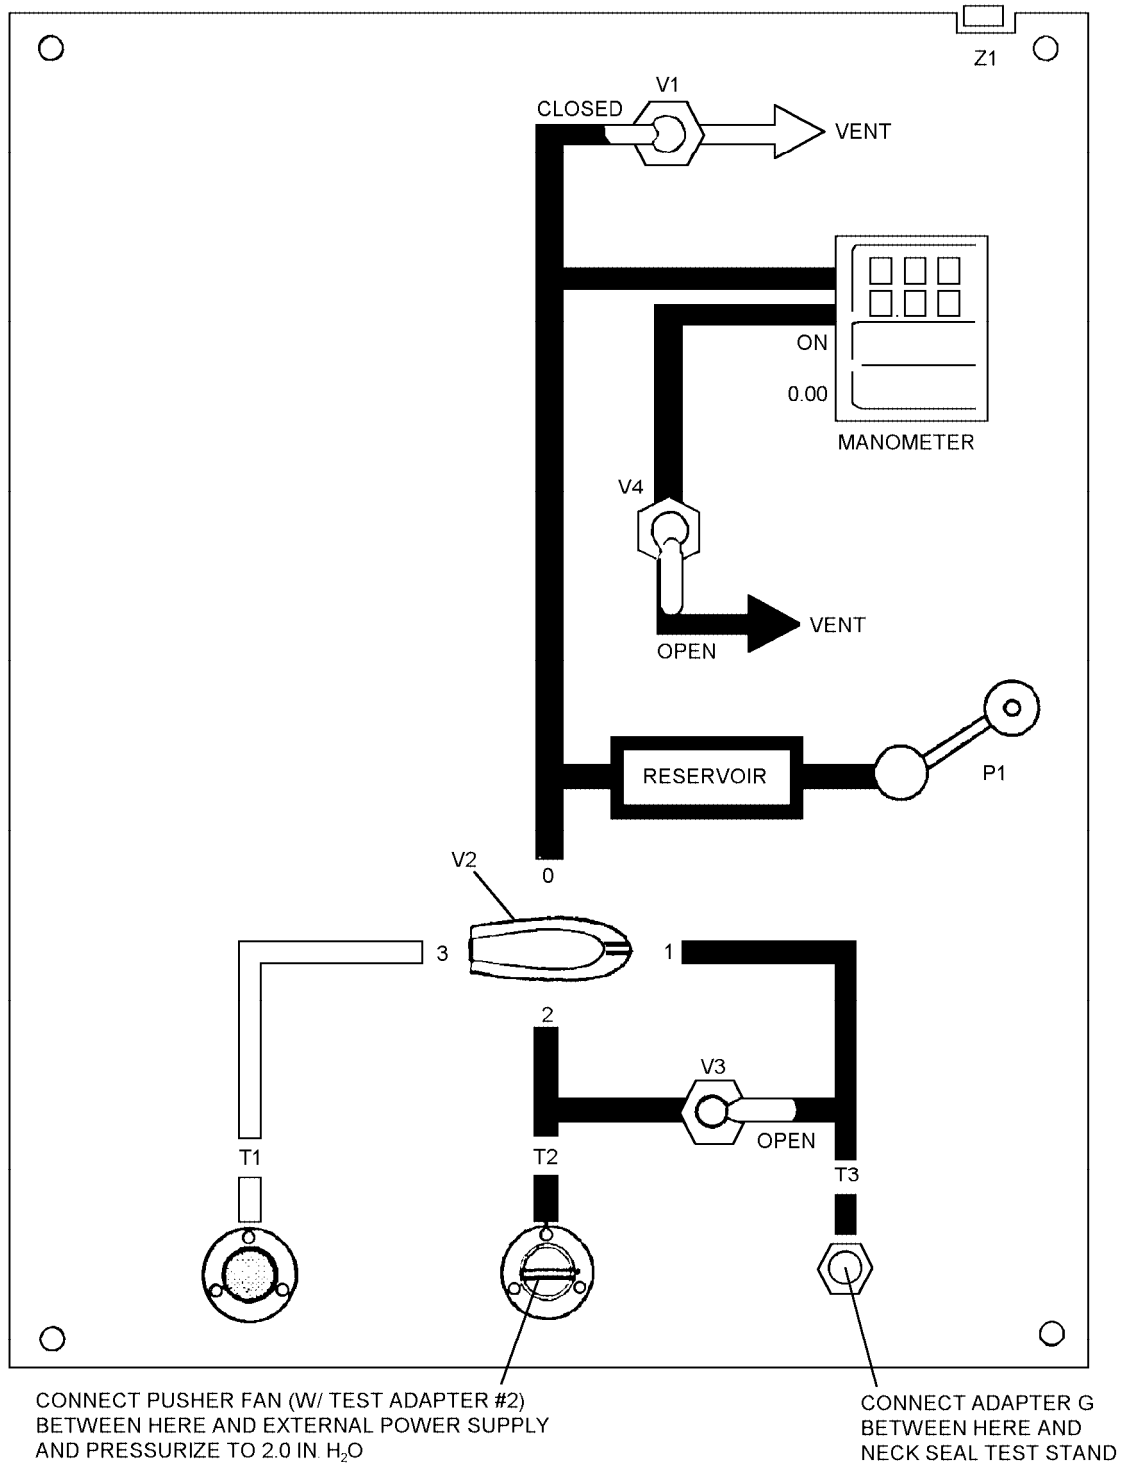

Figure 4-90. Hood Assembly - Overall Leakage Test
13. Connect test adapter #2 to T2 (figure 4-90).